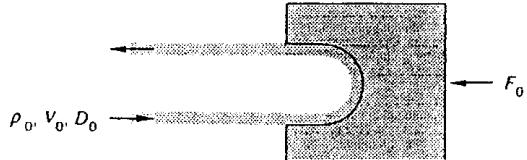

Fig. P3.41
- 3.41** In Fig. P3.41 the vane turns the water jet completely around. Find the maximum jet velocity  $V_o$  for a force  $F_o$ .